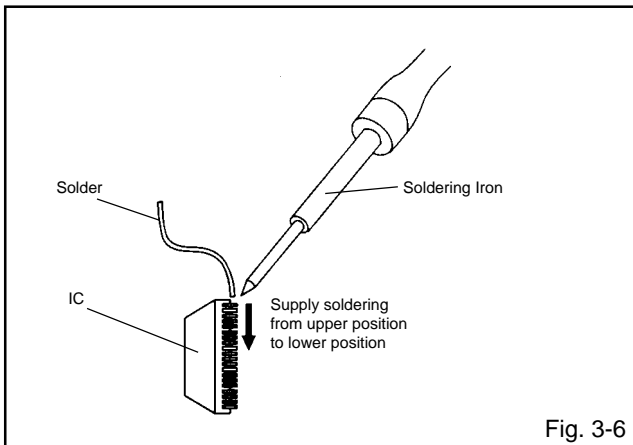

Fig. 3-6
2. Supply the solder from the upper position of IC leads sliding to the lower position of the IC leads. (Refer to Fig. 3-6.)